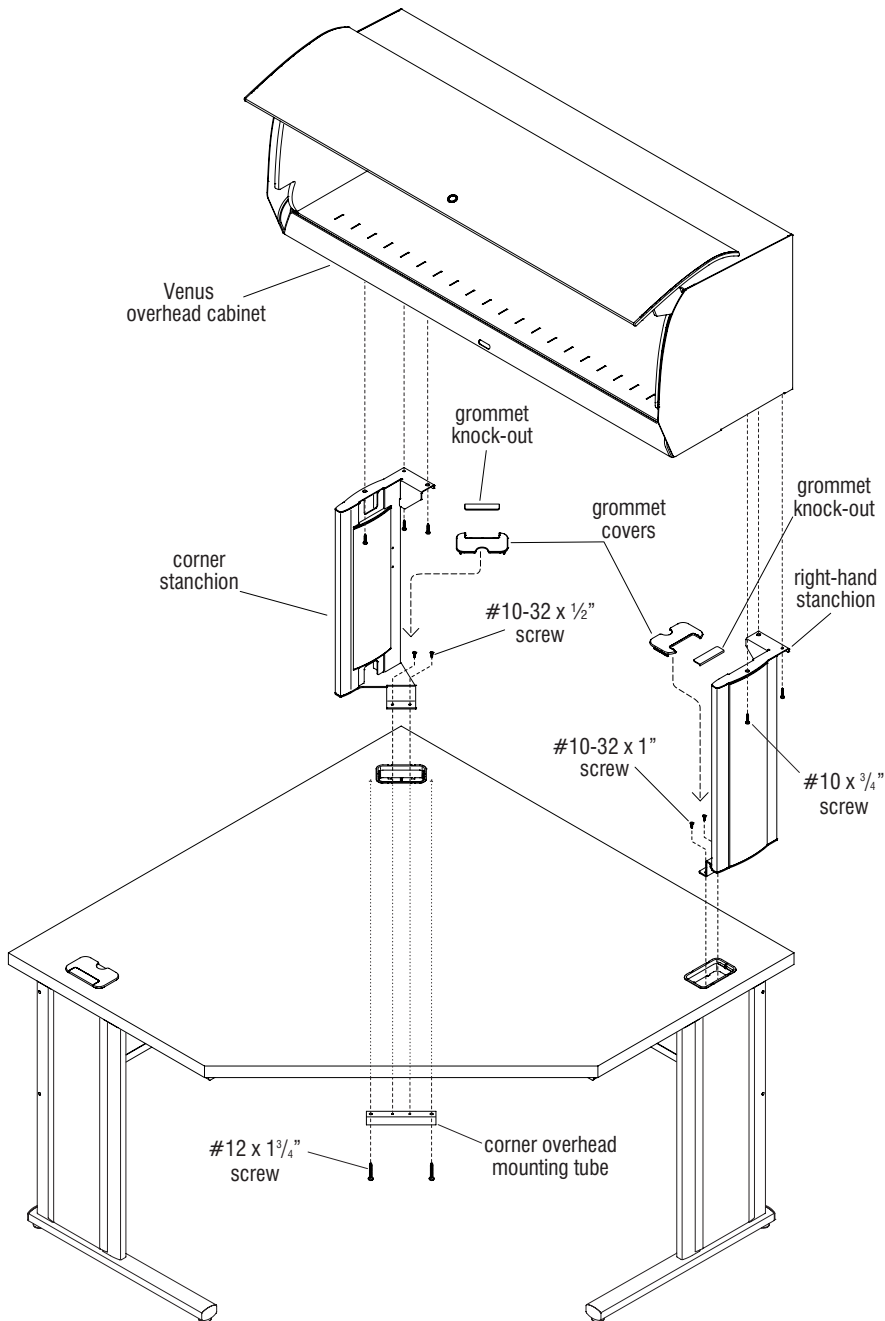

Figure 1
1. Begin by removing grommet covers at the rear corner, and side location where the overhead cabinet will be installed (Figure 1).
2. At the rear corner, from underneath the corner worksurface, install a corner overhead mounting tube using two #12 x 13/4" screws (Figure 1).
3. Position the corner stanchion (left-hand) as illustrated through the corner grommet hole, aligning the mounting holes in the bracket of the stanchion with the mounting holes in the top of the corner overhead mounting tube. Secure bracket to tube using two #10-32 x 1/2" screws (Figure 1).
4. Position the right-hand stanchion with the bracket through the grommet hole, aligning the mounting holes in the bracket of the stanchion with the mounting holes in the top of the right-hand leg. Secure bracket to leg using two #10-32 x 1/2" screws (Figure 1).